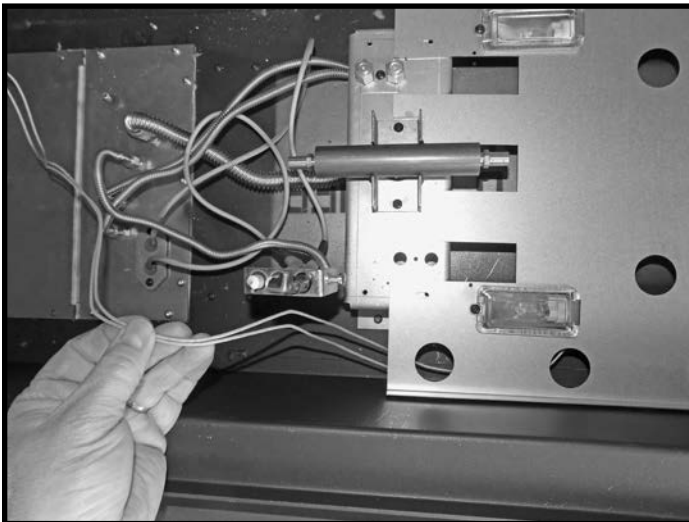

Figure 78: Right hand plate in place with its wires brought out from under it.
- With the control compartment to your left, place the right-hand secondary floor plate in place and route the two wires from the lights to the left side of the firebox (Figure 78). Feed the two wires down through the left most grommet in the gas control compartment cover (Figure 79).